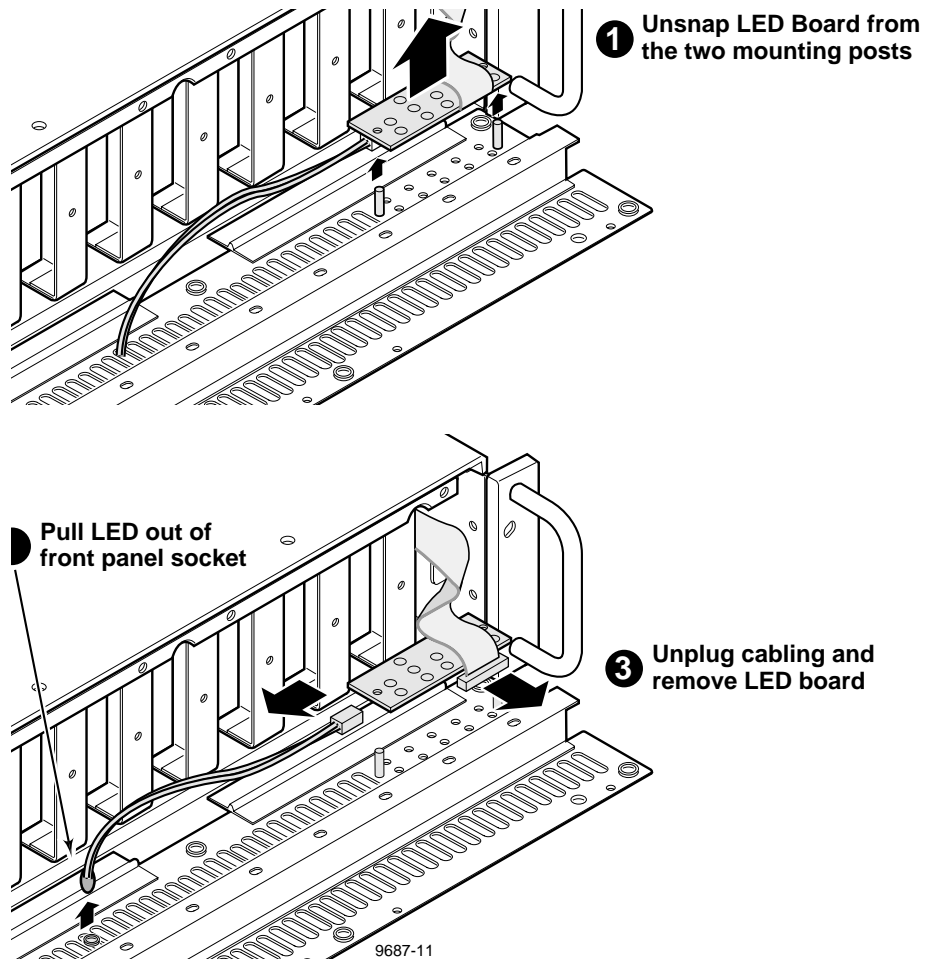

Figure 3-6. PDX218 LED Board and Cable Removal
The LED Board (item 11 in Table 3-1) is on the front panel. It is not necessary to remove the PDX218 from the rack to perform this procedure. Figure 3-6 shows removal of the LED board.
4. Unsnap the LED board from the mounting posts (Figure 3-6) by pulling the board straight up from the front panel.
2. Position the LED board over the mounting posts in the front panel and firmly press down until the LED board snaps into place (Figure 3-6).
This cable assembly (item 12 in Table 3-1) connects from the LED board to the front panel power LED. It is not necessary to remove the PDX218 from the rack to perform this procedure. Figure 3-6 shows removal of the LED cable assembly. To remove LED cable assembly:
5. Disconnect the LED cable assembly from the LED board (Figure 3-6).
1. Connect the new LED cable assembly to the LED board (Figure 3-6).
3. Position the LED board over the mounting posts on the front panel and firmly press down until the board snaps into place (Figure 3-6).